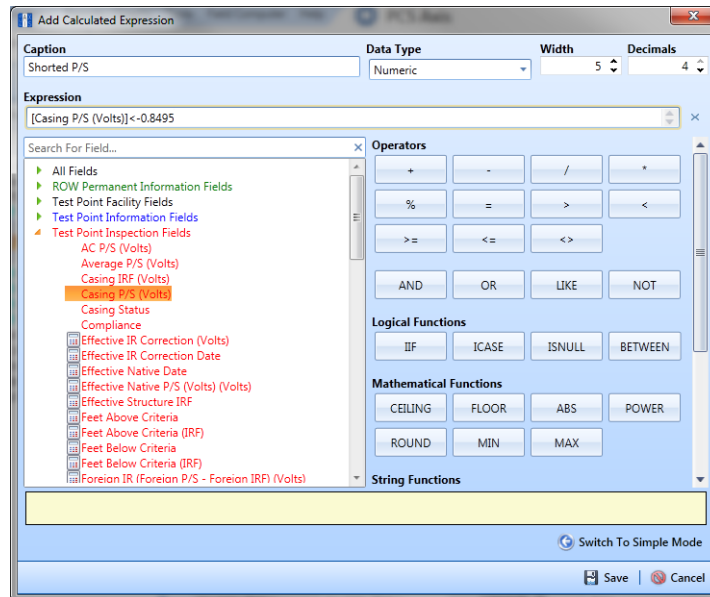

Figure 2-28. Add Calculated Expression (Advanced Mode)
- 4 Click  **Calculated** in the toolbar to open the *Add Calculated Expression* dialog box. If you want to work with the expression editor in advanced mode, click  **Switch To Advanced Mode** (Figure 2-28).